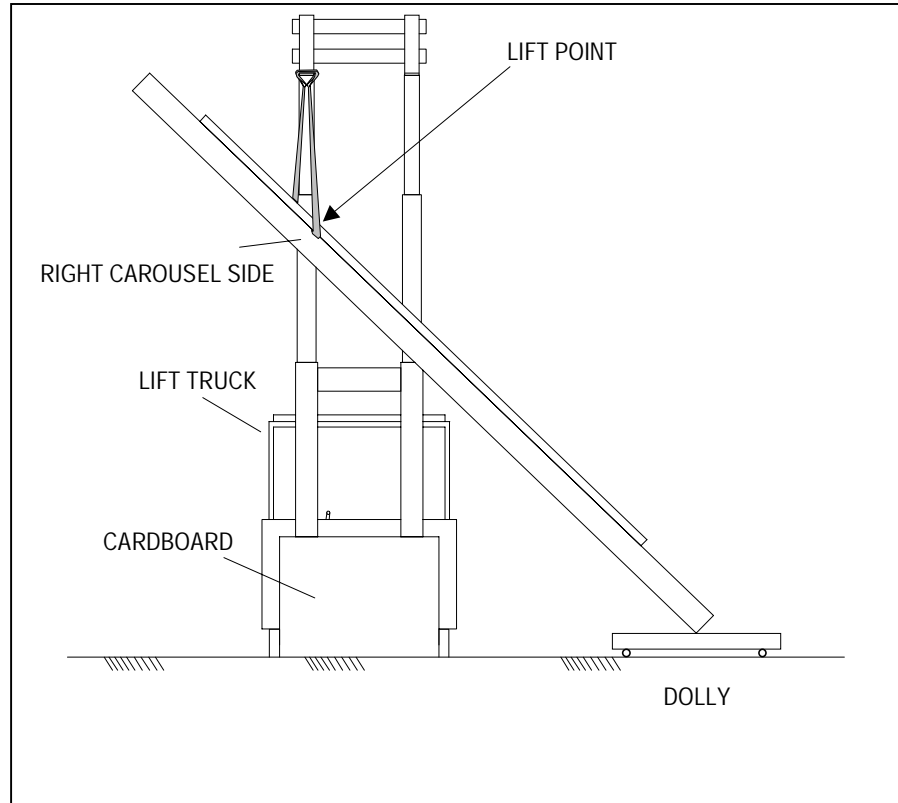

Figure 11. LIFTING THE SIDE
9. Lift the carousel side until it is clear of the floor(see Figure 11).